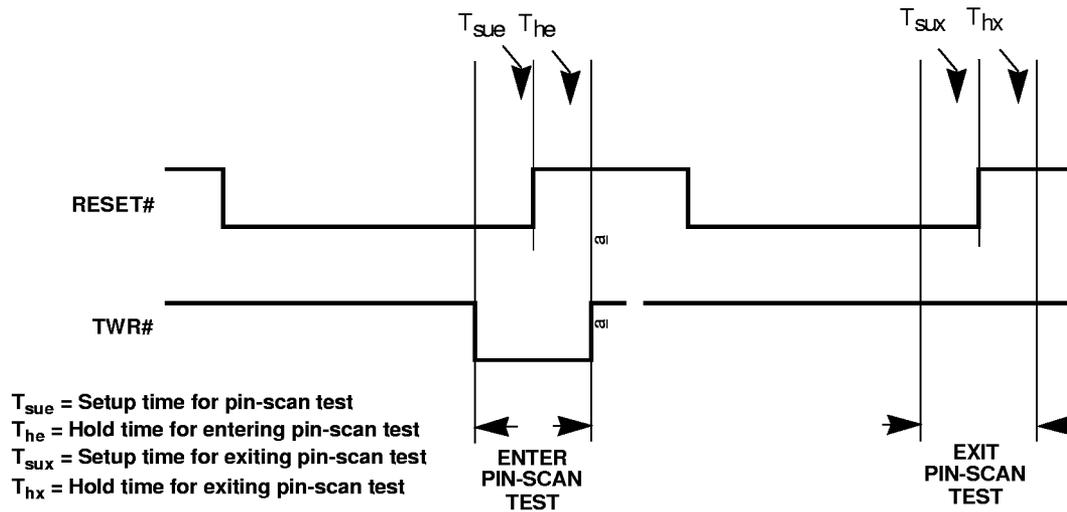

Figure J-1. Entering and Exiting the Pin-Scan Test Mode
- 1) To enter the Pin-Scan Test mode, as shown in Figure J-1, drive RESET# low at least 20 ns while TWR# is low and MD[25] is high. Then, drive RESET# high to keep Extension register bit SR24[7] equal to '1'.
- 5) To exit the Pin-Scan Test mode, drive the RESET# from low to high while TWR# is high, as shown in Figure J-1.